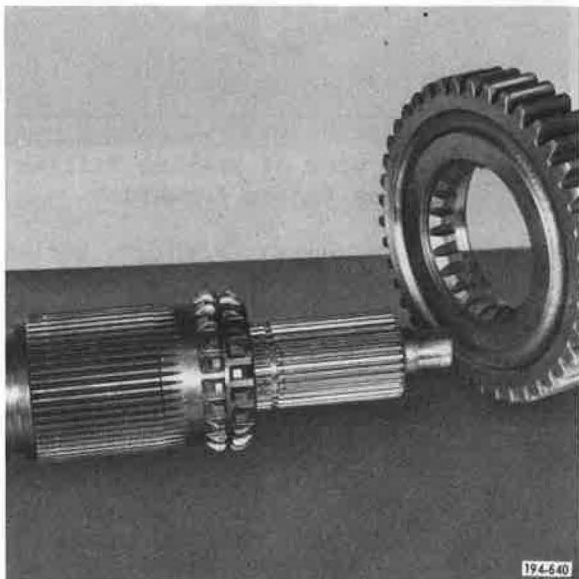

Figure 348. Installing Gear
7. Install third speed gear onto mainshaft. See Figure 348.